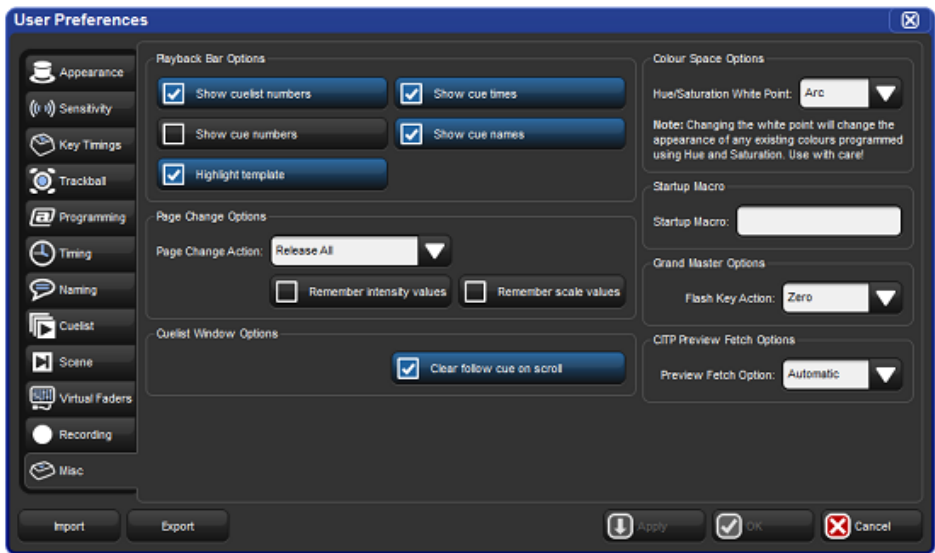

Figure 18.1. The Misc pane of the User Preferences window
- Setup → Preferences → Misc : see Figure 18.1, "The Misc pane of the User Preferences window".